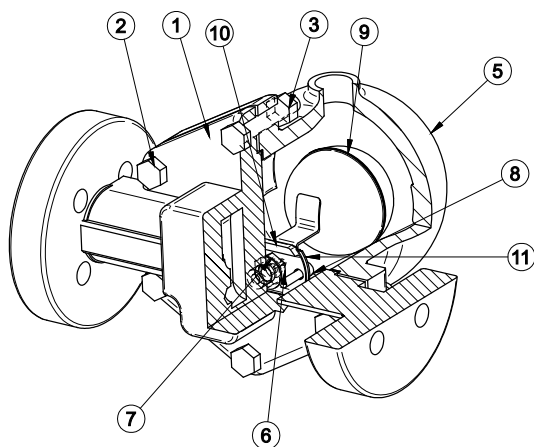

Figure 1: Forbes Marshall Liquid Drain Trap
7.4. Maintaining the main valve assembly: [Refer figure 1 and 5]